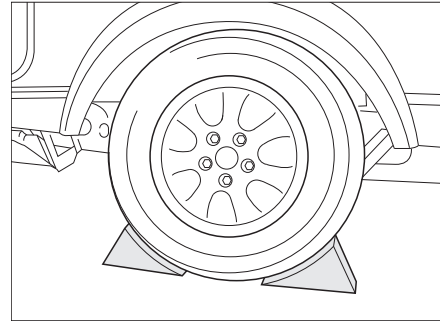

Fig. 160 Securing vehicle
- Place chocks or other appropriate objects beneath the opposite wheel of the vehicle to secure it (Fig. 160).